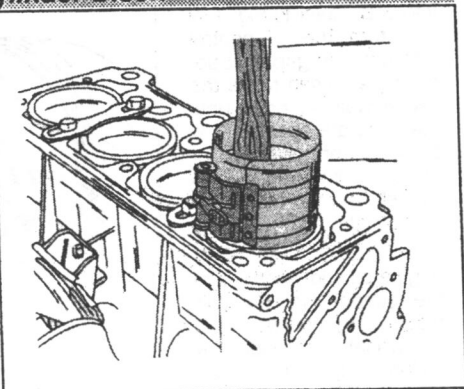

Fig. 1.70. — Fitting a piston with a piston ring clamp.
- Lubricate the piston with engine oil and insert it into the cylinder liner. Suitable piston ring clamps must be available to push the piston rings into their grooves. With the cylinder liners fitted, place the clamp around the piston as shown in Fig. 1.70 and carefully push the piston/connecting rod assembly downwards, using a hammer handle, until the clamp slips off and the piston rings have entered the bore.